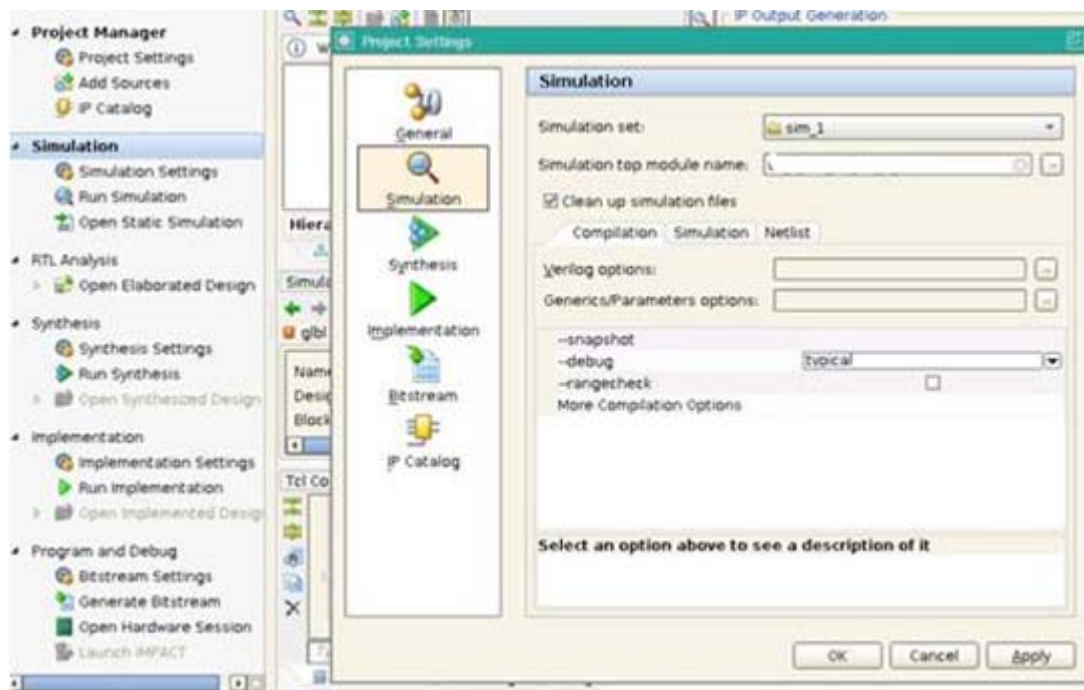

Figure 9-3: Simulation GUI
- You can also choose Modelsim for simulation by going to **Project Settings** and selecting Modelsim as the Target Simulator (Figure 9-3).